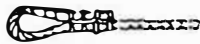

FIGURE 3
5. Typical sleeve after crimping. See Figure 3.